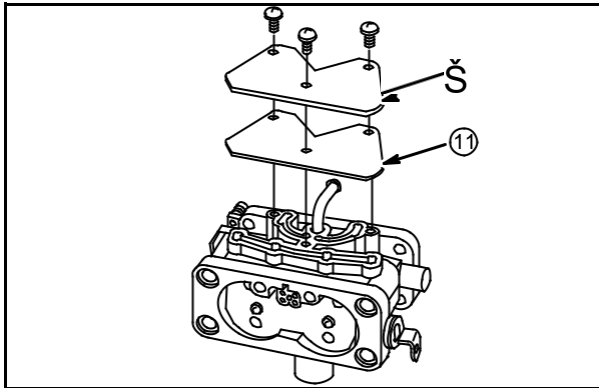

Fig. 119
Remove cover plate (10). Discard gasket (11), Fig. 119.